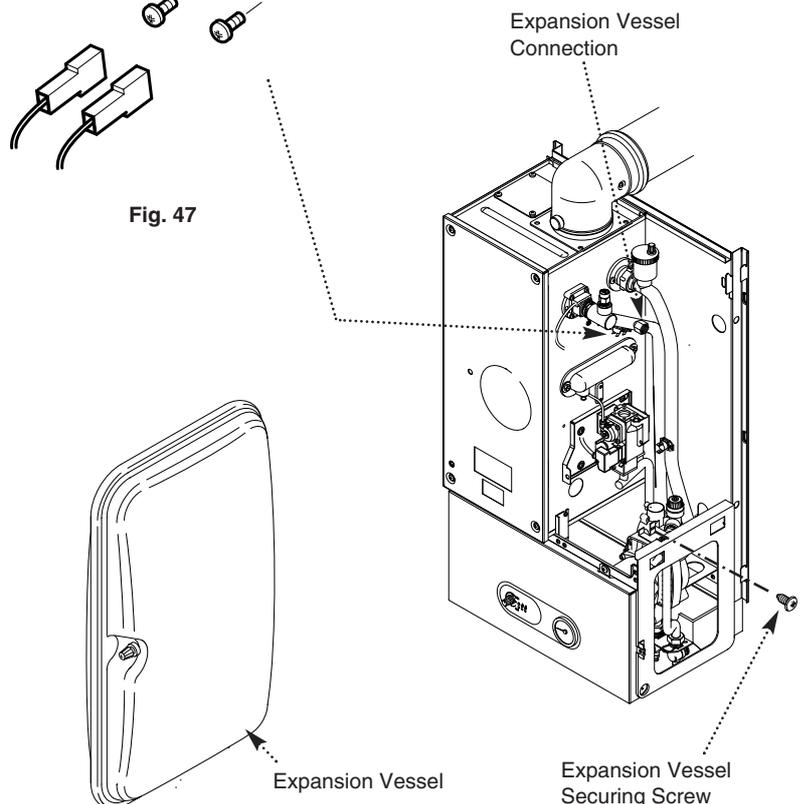

Fig. 48
13.5 Expansion Vessel (Fig. 48)